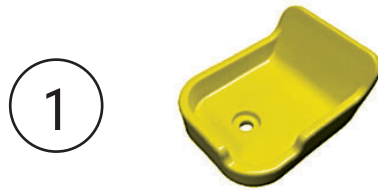

Figure 5
- A. Standard insert 8920-068 is factory installed on all SecureALL® brackets when no other adaptation is ordered. See Figure 5.